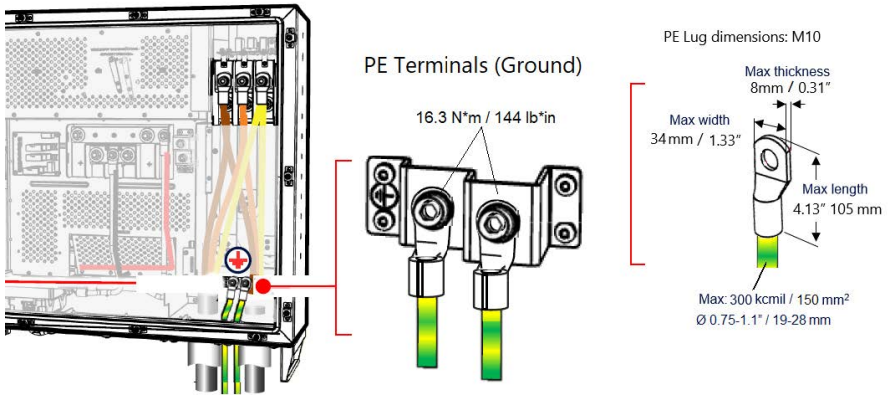

Figure 29: Connecting PE (Ground) to the Inverter
3. Strip the required length of insulation from the PE wire, crimp a lug and connect the wire to a PE terminal and tighten the screw to 16.3 N\*m/144 lb\*in (see *Figure 29*).